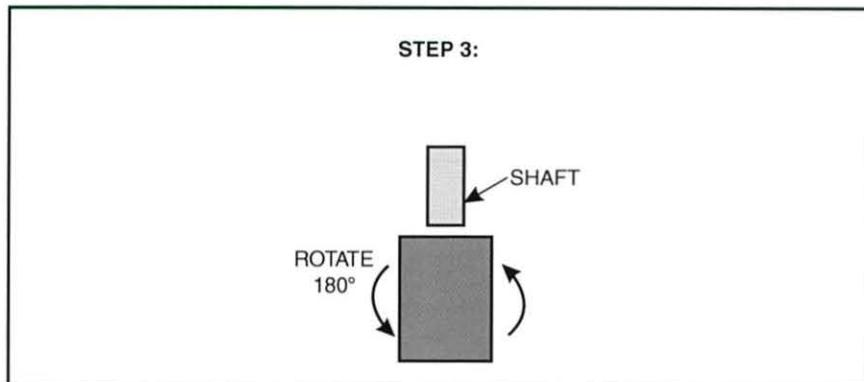

Figure 19. Rotate Float Device
- C. Rotate the float device  $180^\circ$  (end over end), as shown in figure 19.